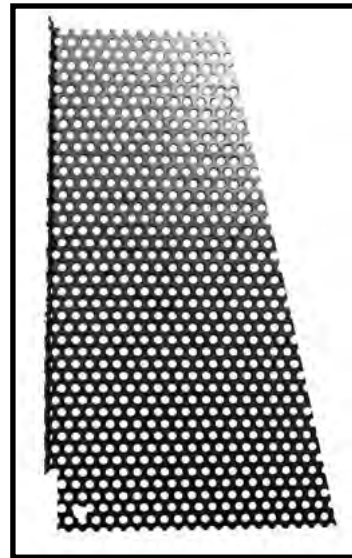
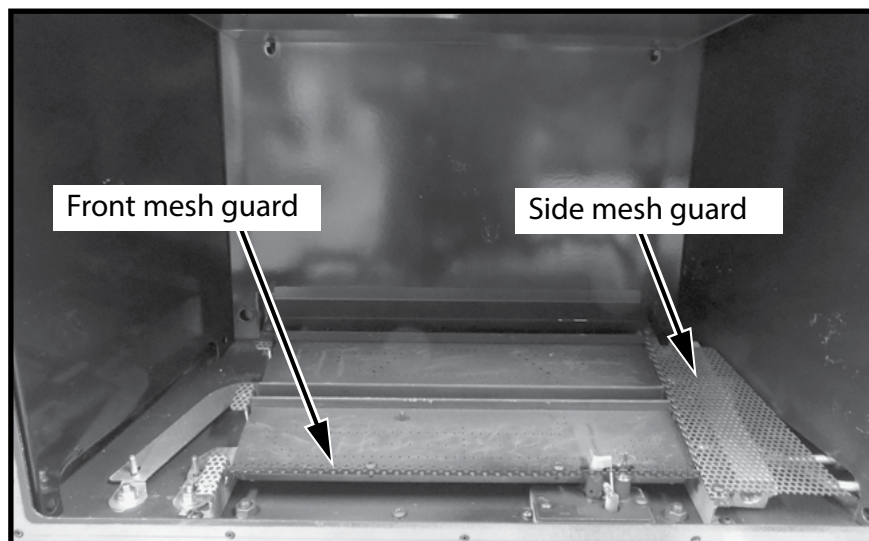

Figure 90: Side mesh guard.
Figure 91: Front and side mesh guards in place.
3. Place and secure with a single screw, the side mesh guard (Figure 90) on the right hand side of the firebox as shown in Figure 91.